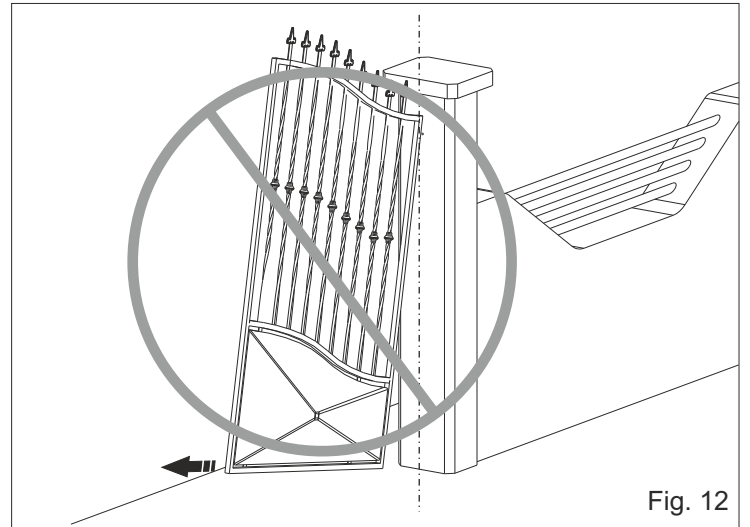
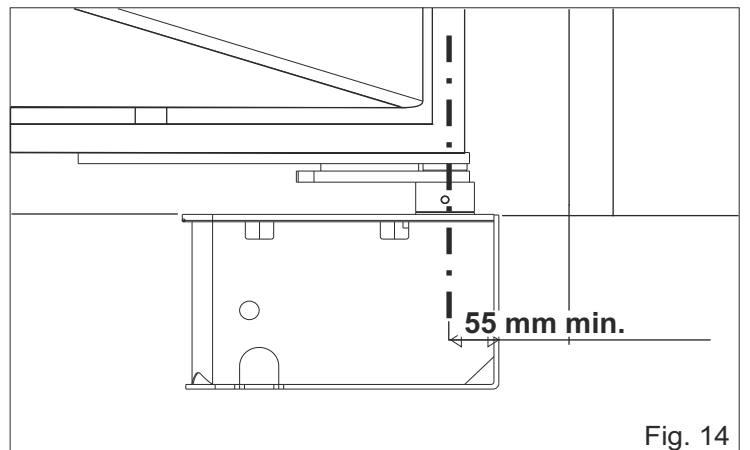

Fig. 12
Fig. 14
3.3. Be careful not to place the leaf outside the axis (Fig. 12 and 13), but make sure the shaft corresponds to the hinge rotation axis remembering that the minimum distance from the pillar is 55 mm (Fig. 14).